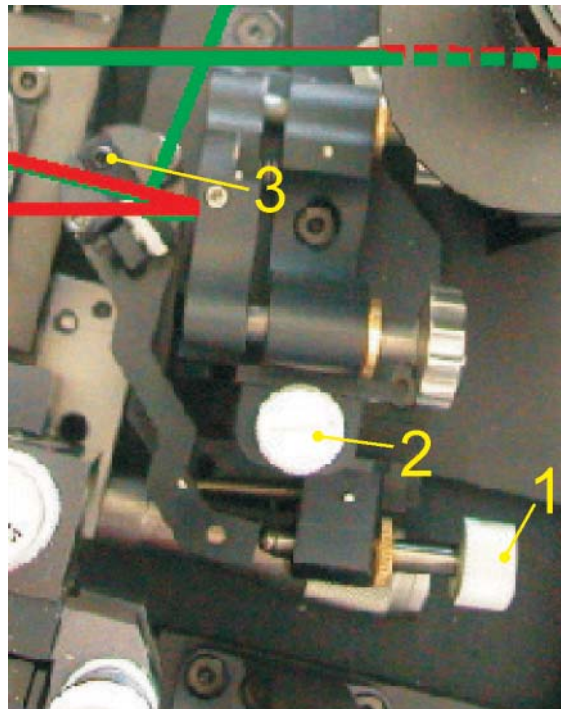

Fig. 22 Mirror M4 mount with beam path (red - intracavity beam; green - outcoupled beam)
6. After having optimised the diffracted beam by appearance remove the aperture and adjust the output mirror M4 height [2] and horizontal position, so that the intracavity beam is passing above M4 and the 1st order beam hits the mirror M4 after being reflected by CM1. To adjust the horizontal position, tilt the mirror M4 with screw 3 using an Allen key, see Fig. 22. If the adjustment range is not sufficient loosen the mirror from its holder (use an Allen key) and slide it to the proper position. Then fix M4 again.